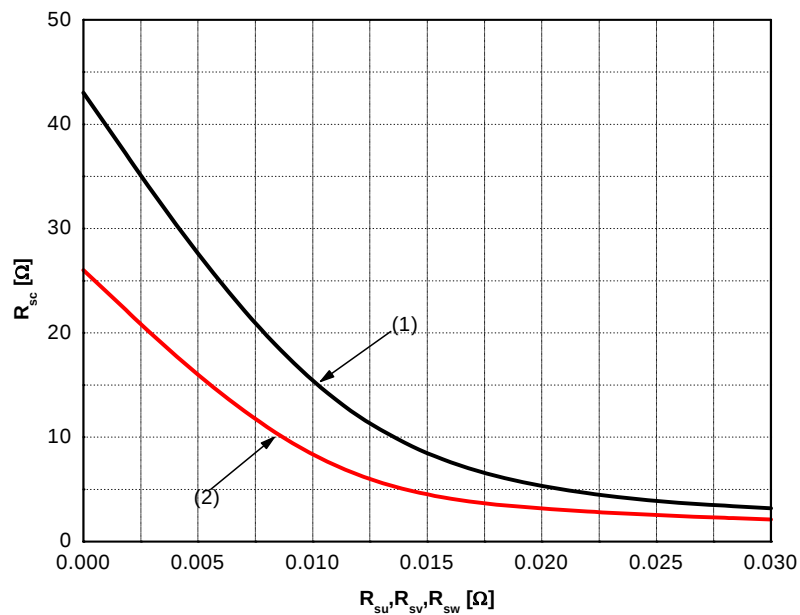

Figure 6. R_{sc} Variation by Change of Shunt Resistors (R_{SU} , R_{SV} , R_{SW}) for Short-Circuit Protection
- Short-circuit protection is functioning only at the low-sides. It would be recommended that the value of the external sensing resistor (R_{SC}) should be selected around 26 Ω in order to make the SC trip-level of about 100A. at the shunt resistors (R_{SU}, R_{SV}, R_{SW}) of 0 Ω. For the detailed information about the relationship between the external sensing resistor (R_{SC}) and the shunt resistors (R_{SU}, R_{SV}, R_{SW}), please see Figure 6.